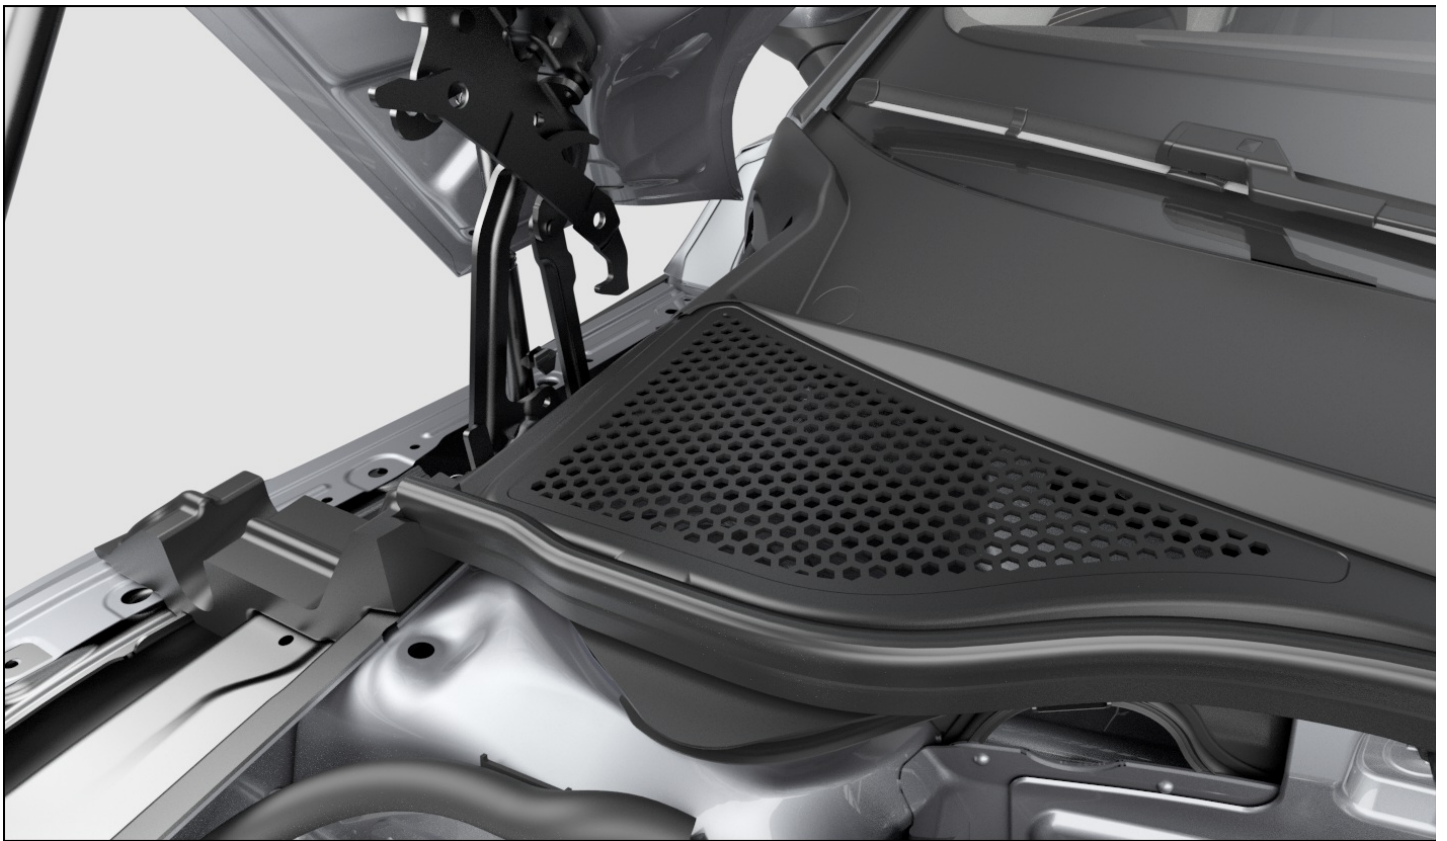

Fig. 179 Between the hood space and windshield: Plenum chamber (general example).
- Remove leaves or other loose objects with a vacuum or by hand *fig. 179* , ⇒ **⚠**.